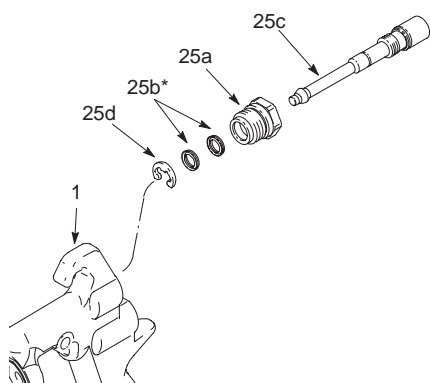

Fig. 25
1. Unscrew the pattern adjustment valve assembly (25). See fig. 25.